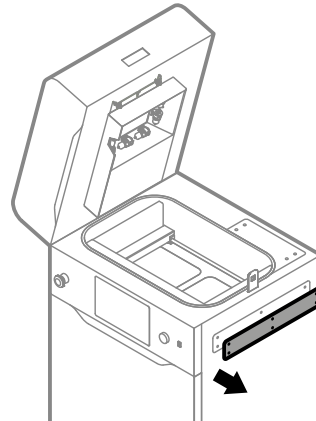

Fig. 13.65 Remove the access panel
7. Remove the access panel on the right side of the printer (fig. 13.65).